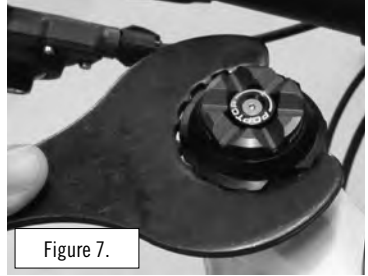

Figure 7.
1. Remove the Lefty outer collar with a Shimano Bottom bracket tool - TL-FC32. Turn the wrench counter-clockwise to loosen the outer collar. Figure 7.